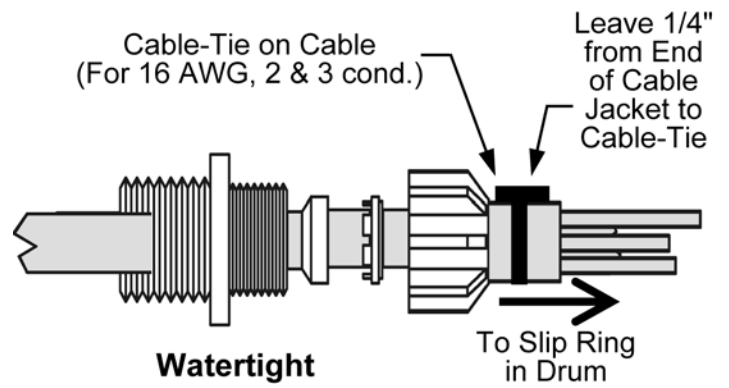

Figure 1
2.5.4 Strip the cable jacket back approximately 10" from end of cable and thread it through the cable entrance watertight into the drum of the reel. We recommend a cable-tie on 16 AWG, 2 and 3 conductor cable (see Figure 1 on page 10).